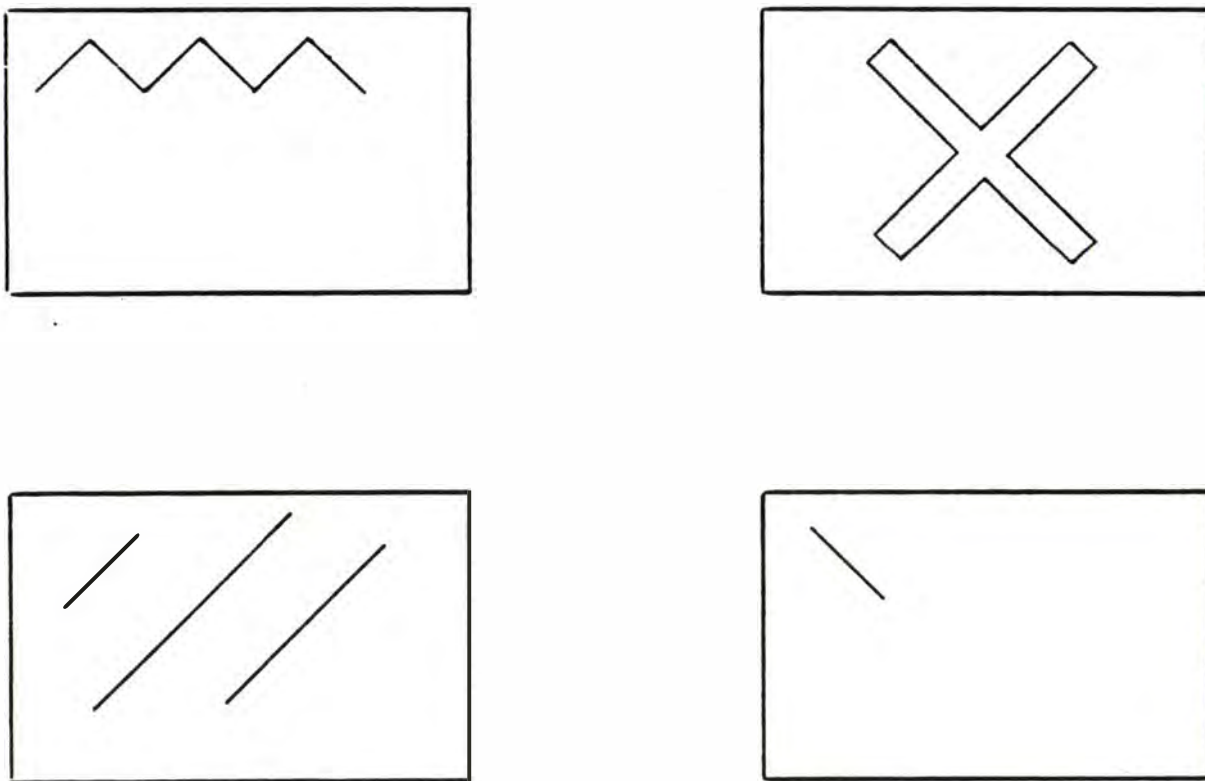

Figure 3-7. Defective RAM Patterns
- Format: On power-up the television displays diagonal lines of some type if the RAM is defective. See Figure 3-7 for examples of screens indicating a defective RAM.